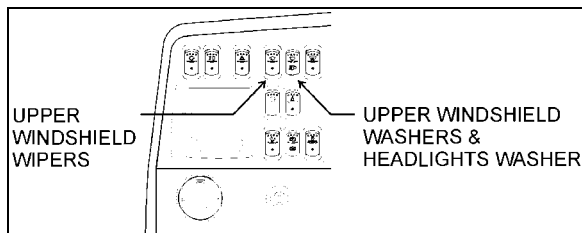
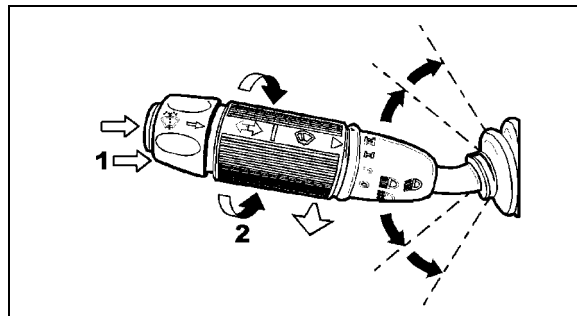

FIGURE 35: DASHBOARD
FIGURE 36: MULTIFUNCTION LEVER 23133
Depress the upper windshield wiper switch located on the dashboard L.H. side to the first position for intermittent wiping, and to the second position for continuous wiping (Figure 35).
Rotate the multifunction lever forward to activate lower windshield wipers (arrow 2, Figure 36). The first position operates the wipers at low speed and the second position operates the wipers at high speed. Turning the lever backwards will operate the wipers in the intermittent mode.
To activate the upper windshield washer pump, depress and hold the top of the rocker switch on dashboard L.H. side (Figure 35). The upper wipers will come on automatically and will shut off a few seconds after releasing the rocker switch. The lower windshield washer pump is electrically operated and is controlled by a washer control ring on the multifunction lever (item 1, Figure 36).